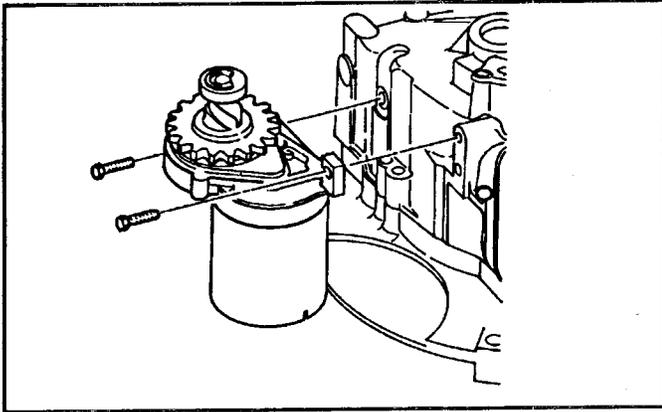

Figure 52
1. Remove the two 3/8" hex, washer head cap screws retaining the starter. See Figure 52.